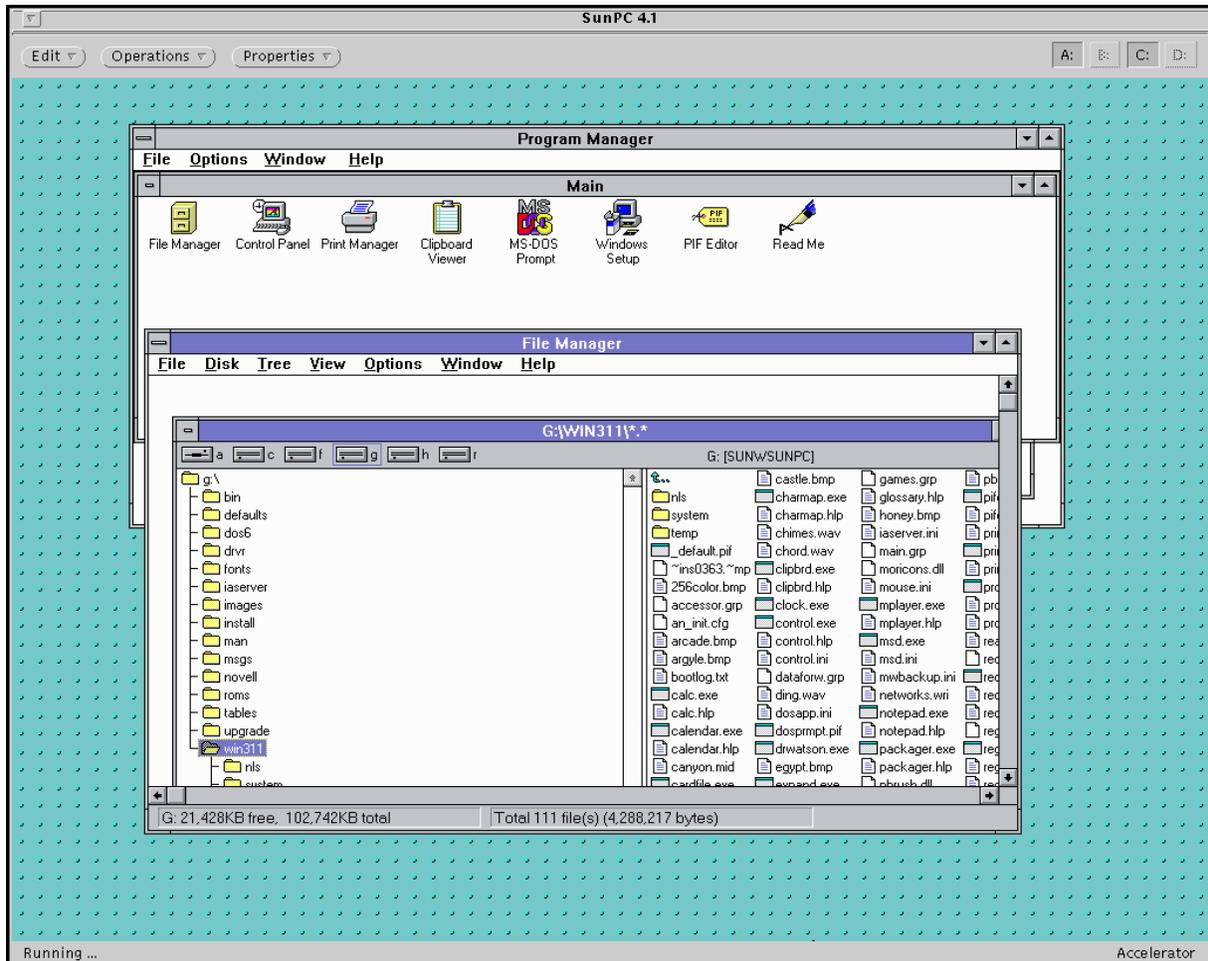

Figure 10-2. Initial Program Manager Display
To access the DOS Program Manager window (Figure 10-2), type `win` at the `C:\>` prompt. The window in Figure 10-2 shows the File Manager application window open.
1. To close the window, select the down arrow at the top left of the window (see Figure 10-2).
1. To quit (exit) the window, select the down arrow at the top left of the window (see Figure 10-2).